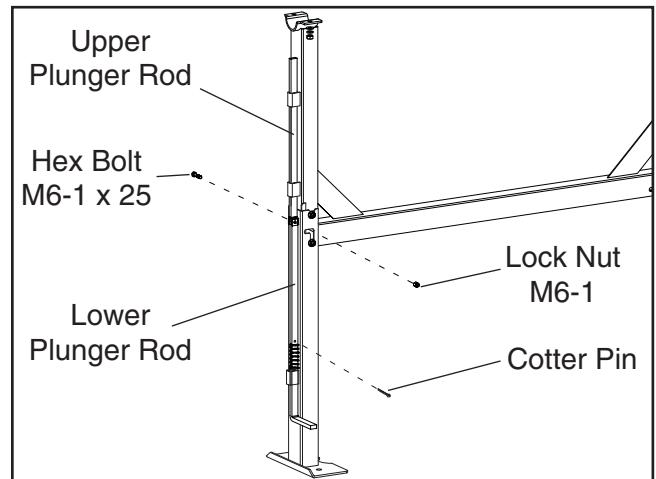

Figure 5. Plunger rod installation.
3. Connect the upper and lower plunger rods together with an M6-1 x 25 hex bolt and M6-1 lock nut, then insert the cotter pin where shown in **Figure 5**. Bend each leg of the cotter pin outward so it can't fall out.